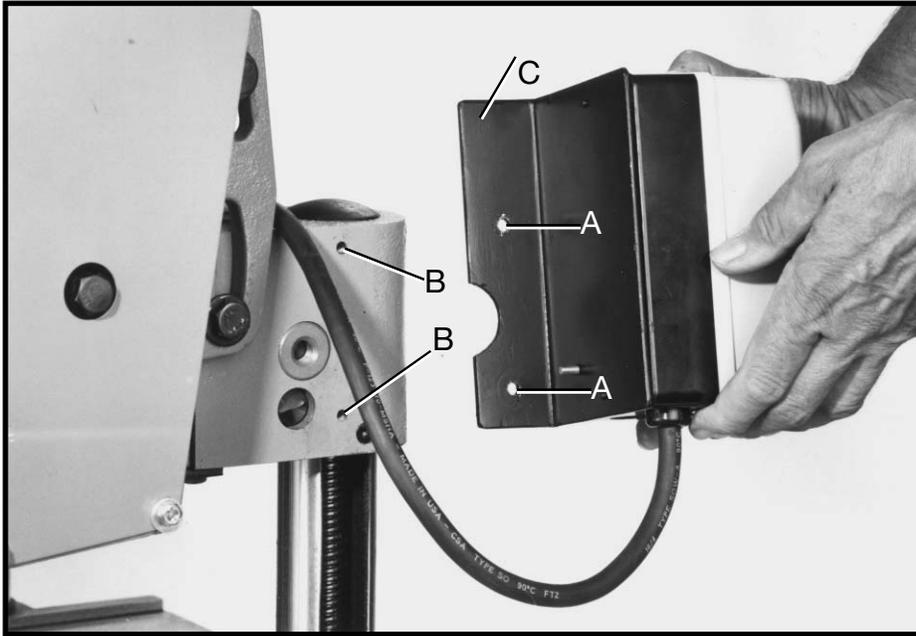

Fig. 10A
1. Line up the two holes (A) Fig. 10A, in the switch bracket (C) with the two threaded holes (B) in the left front of the machine.